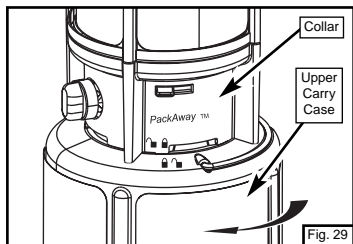

Fig. 29
- ⇒ Unlock the upper carry case and remove from the collar. (Fig. 29)